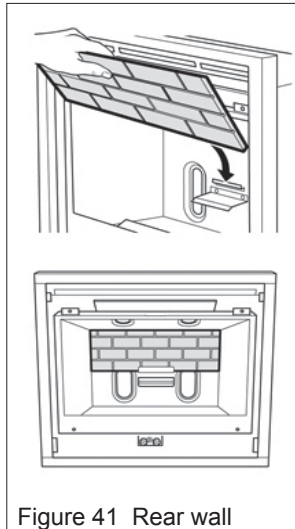

Figure 41 Rear wall
1. Locate the ceramic rear wall in the channel at back of the firebox and flat against the back of the firebox. See figure 41.